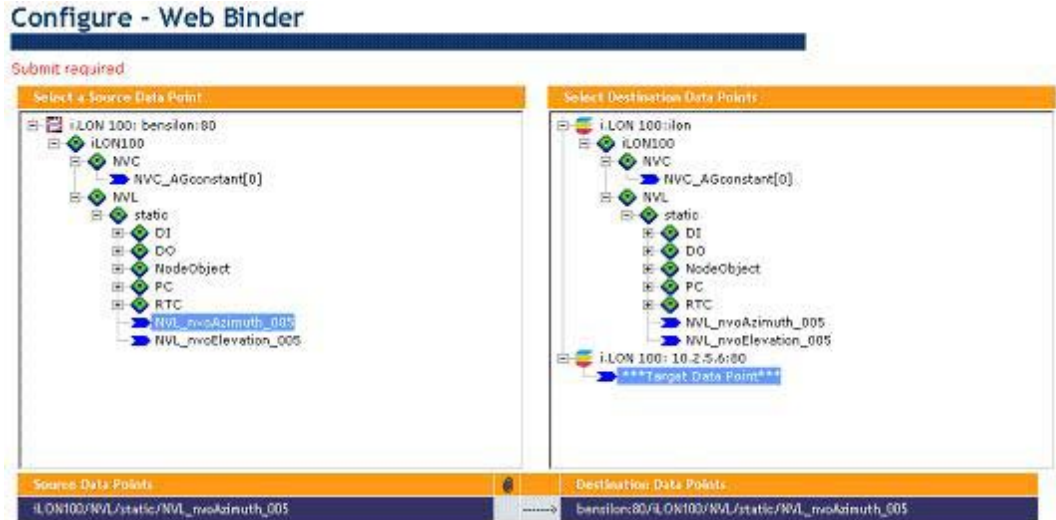

Figure 10.5 Web Binder connection Added
14. Once you have selected a source data point and one or more destination data points, click the **Add Binding** button on the left sidebar. The new Web connection appears at the bottom of the window, as shown in Figure 10.5.